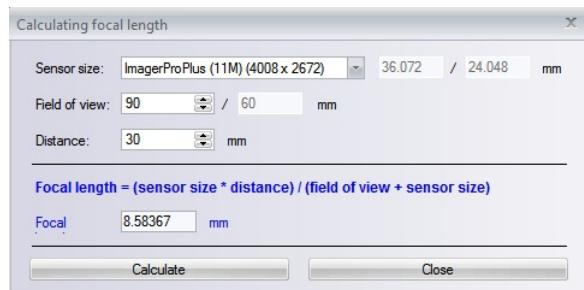

Figure 19.1: Focal length calculator
1. Select the menu item **Extras – Wizards – Focal length calculator** to open the dialog in Fig. 19.1.